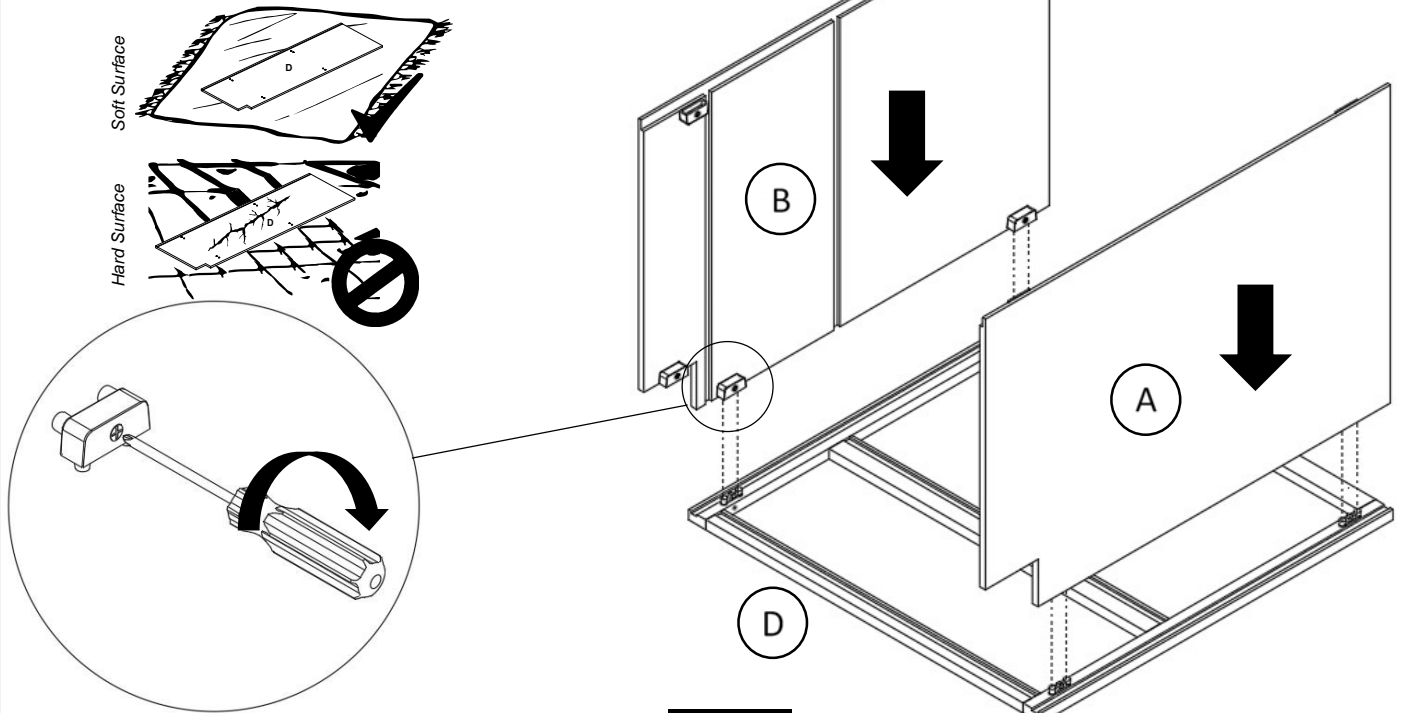

Figure 1
- 1** Assemble the Side Panels (A,B) onto the Frame (D) by connecting the male and female cam locks and using a screwdriver to turn the lock clockwise. (Figure 1)